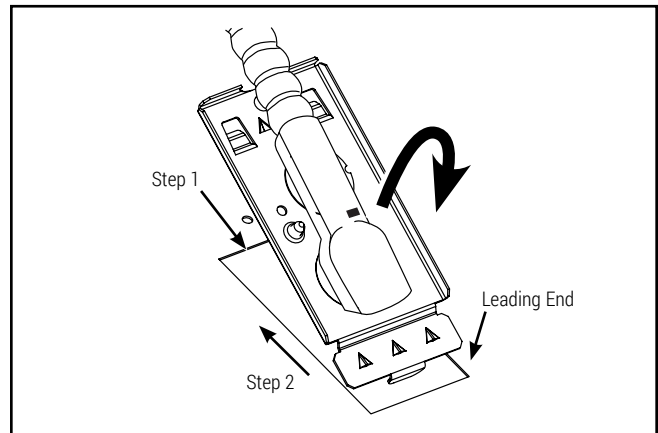
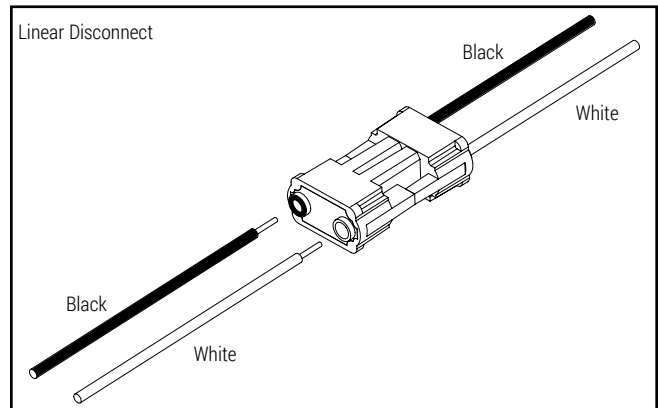

Figure 3.
Figure 4.
4. Remove electrical access plate and remove necessary knockouts from access plate for attachment of electrical supply cable (Figure 3). Make necessary wiring connections to driver AC line input. A Linear Disconnect is provided to speed installation (Figure 4).
**Step 1:** To insert access plate, rotate until leading end is inside the wireway (Figure 3).